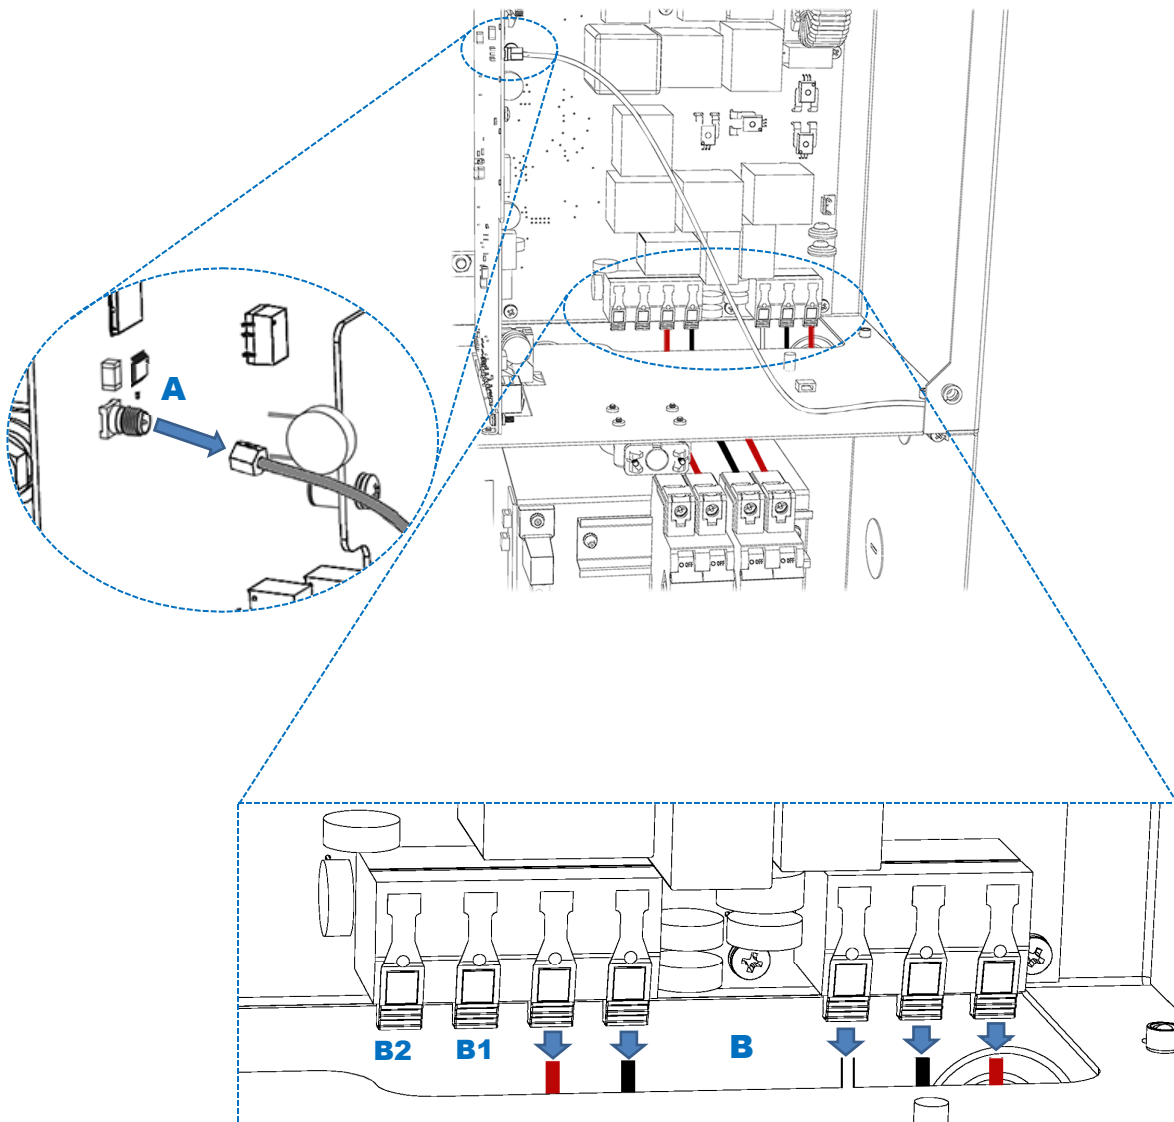

Figure 42 AC Terminals
1. Before beginning, remove the RP-SMA cable for the antenna wire. See **A** in Figure 42. Note that this is not a required step for board replacement, but will make access to the board easier.
- Replace the AC wires **B** and the RP-SMA cable **A**. See Figure 42 if necessary. After latching, tug on the wires to ensure that they are secure.